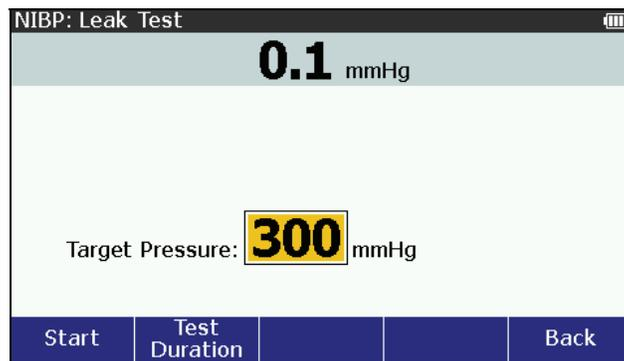

Figure 38. Leak Test Screen
4. Push **ENTER** to show the **NIBP: Leak Test** screen in Figure 38 in the display.